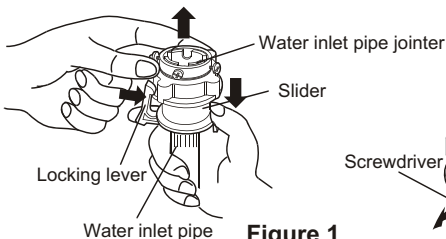

Figure 1
1. Loosen the fastening screw of the back cover to take off the back cover. Be careful not to do it by force to prevent breaking the claw of the back cover. (as indicated in Figure 1)
2. Press the lower end of the lock lever and push down the slider. Take off the water inlet hose jointer from the water inlet hose component. See to Figure 1.